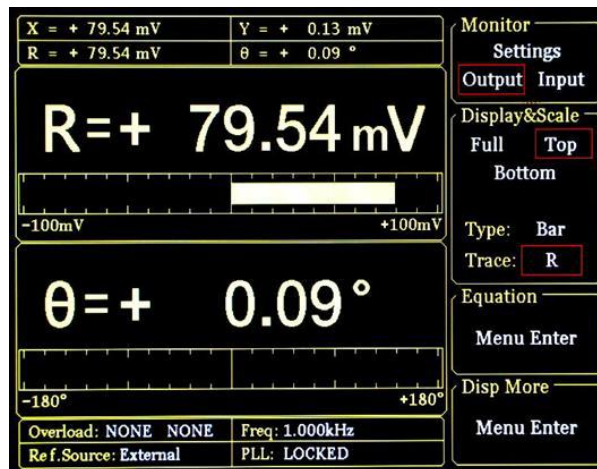

Fig.95 Monitoring Bar Display
Press [DISPLAY] in front panel to enter the submenu. Then, press [soft key 1] to set the \langle Monitor \rangle from \langle Setting \rangle to \langle Output \rangle . Now the monitor bar will display the value of \langle R \rangle , \langle X \rangle , \langle Y \rangle and \langle θ \rangle , as is shown in Fig.95.